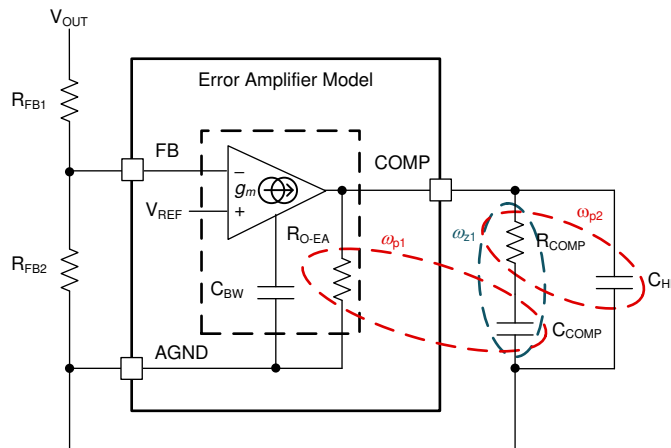

Figure 9-3. Error Amplifier and Compensation Network
Figure 9-3 shows a type-II compensator using a transconductance error amplifier (EA). The dominant pole of the EA open-loop gain is set by the EA output resistance, R_{O-EA} , and effective bandwidth-limiting capacitance, C_{BW} , as shown by Equation 25.